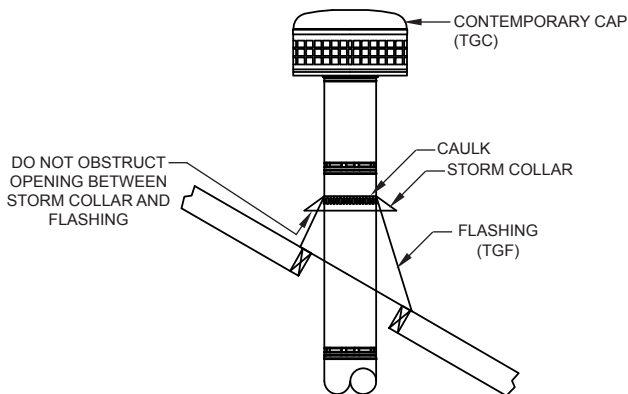

FIG. 23
3. Install a bead of caulk around the pipe at the top edge of the storm collar. Wrap the storm collar around the pipe and imbed the edge in the caulk to prevent leakage around the pipe (See FIG. 23).